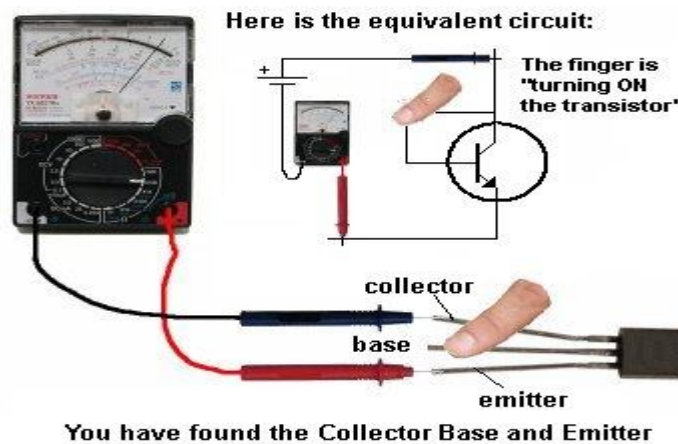

Figure 2.13: Identifying the Collector and Emitter of an NPN transistor
4. Having identified the Base (B), to get the Collector (C) and Emitter (E), set the meter to 'X10K' setting;
5. For the NPN transistor, place the two leads of the meter on the remaining transistor pins and press hard as shown in Figure 2.13, the pointer will swing to almost full scale;